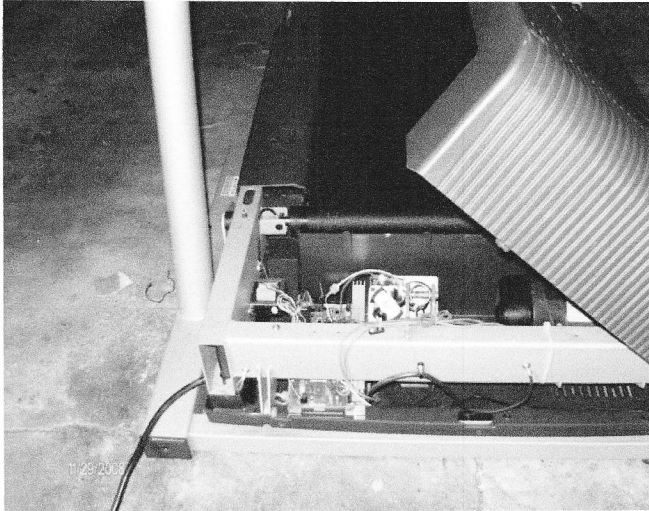
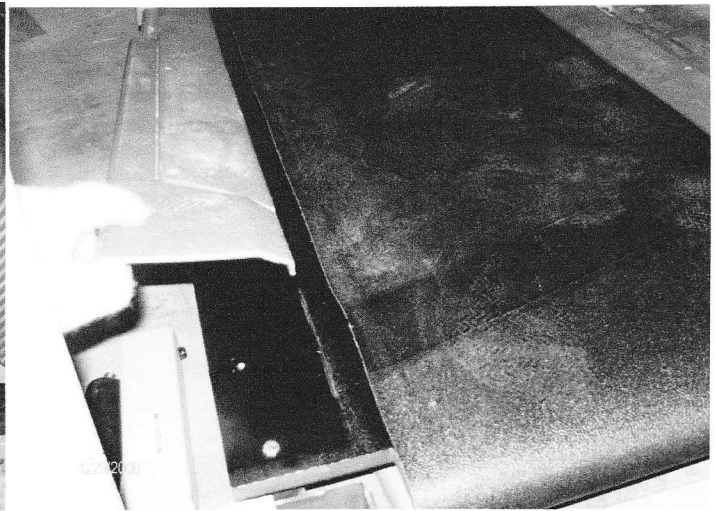

FIG 1.
FIG 2.
- 2) Remove the hood (fig 1). Remove the right side rail (fig 2).